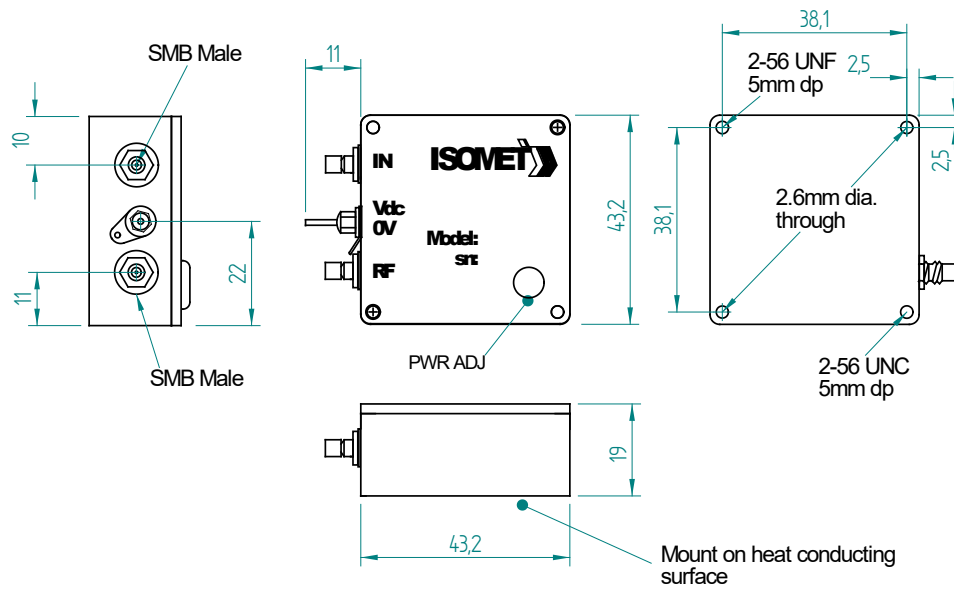

Figure 1: Driver Installation
3.1 Using M2.5 screws, install the Amplifier on a heat sink through the 2.6mm ID holes identified in figure 1. Use heat conducting compound between the Amplifier and mounting face and the heat sink.
3.2 With no DC power applied, connect the positive (+V) to the center terminal of the feed-thru terminal as shown in figure 1. Connect the 0V or ground connection to the earth tab.